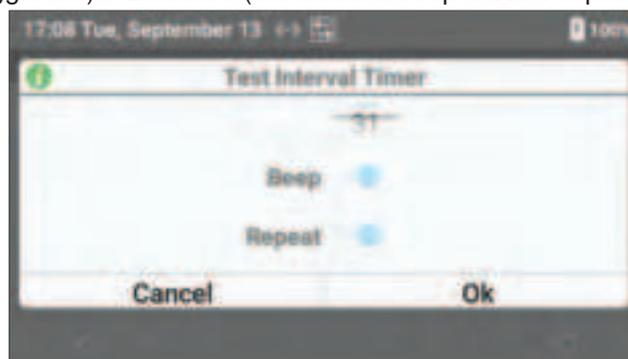

Figure 57: Test Interval Timer – Beep and Repeat Options
- 3 (Optional) Scroll down (Figure 57) and use the toggle to select **On** or **Off** for the following options: